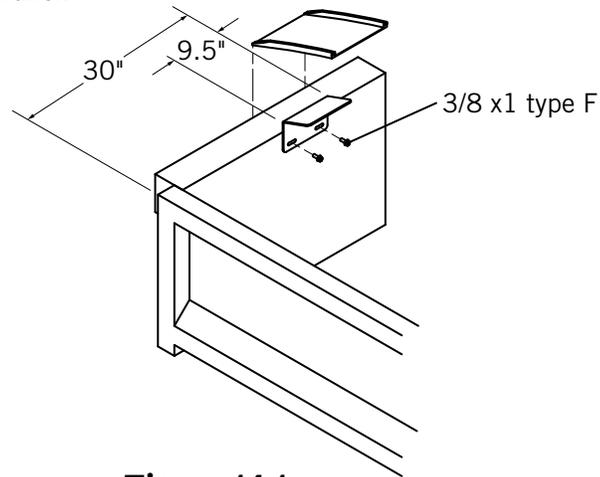

Figure 14-1
7) **Figure 14-1.** Position the front of the aluminum trough at 30" from the outside of the tailgate.
8) **Figure 14-1.** Drill pilot holes for 3/8" x 1" type F and secure to trailer.